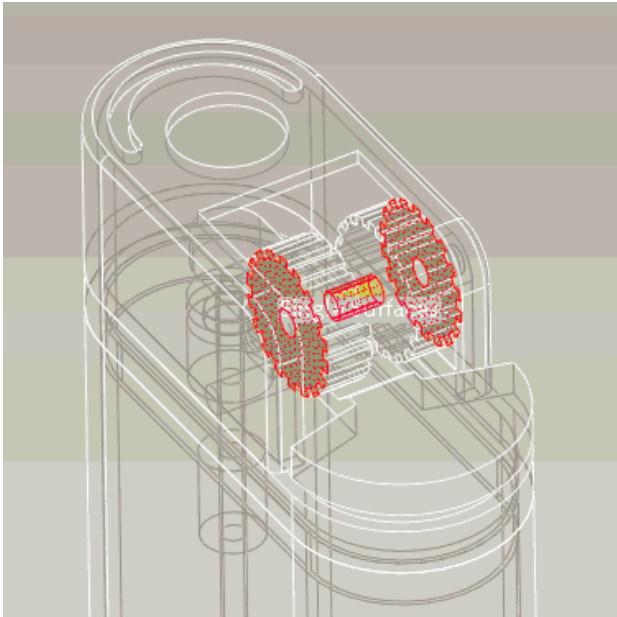

Figure 3
2. There are four options available when the Envelope Method dialog box opens. A new component can be created by selecting Create Envelope Part, an existing component can be used by choosing Select Existing Assembly Component, or a shrinkwrap feature can be created or used by picking either of the two shrinkwrap options. Using an existing component will simply represent the components that were selected to be members of the envelope with the existing component. In this example, click Create Envelope Part and name the part file which is generated "wheel_simp". The Creation Options menu will appear, and with it, the ability to create any solid, surface, or datum feature to represent the members. Select Create features > OK from the Creation Options dialog box. The wheel_simp part should activate. To create the surfaces select the wheel part, then one of the outer flat surfaces in wheel.prt and click Edit > Copy > Edit > Paste. While holding down CTRL, select the second outer surface and the cylindrical surface in the middle of the flint_wheel as shown in Figure 3. Then click the green checkmark in the Copy tool dashboard. Surface copies can only reference one part at a time. If there were other members being represented by this envelope, and additional surface features were required, the Geometry button could be chosen from the Envelope Definition dialog box, then repeat the process from above, selecting different surfaces this time. To finish the editing of the envelope click OK from the Envelope Definition dialog box. Select the envelope name and then click the Info button and notice that it lists the component that will be substituted and mentions that this envelope is not being used in any Simplified Reps. Close the Information window. To view the envelope, highlight the envelope name and right-click and select Show References. Click Close from the ENVELOPE dialog box to complete creation of the envelope.